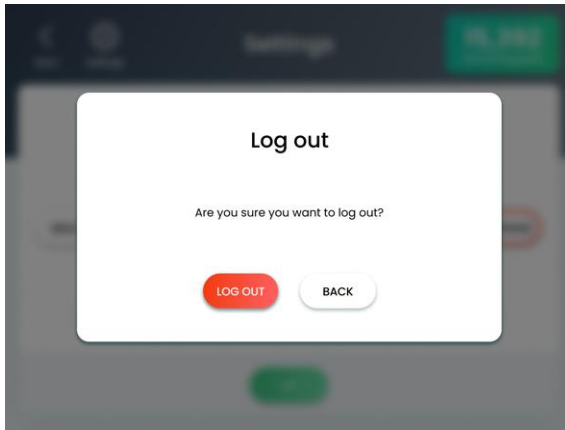

Figure 5-5. Log Out Screen
2. Press the **Logout** button; the Log Out screen appears, as shown in Figure 5-5.